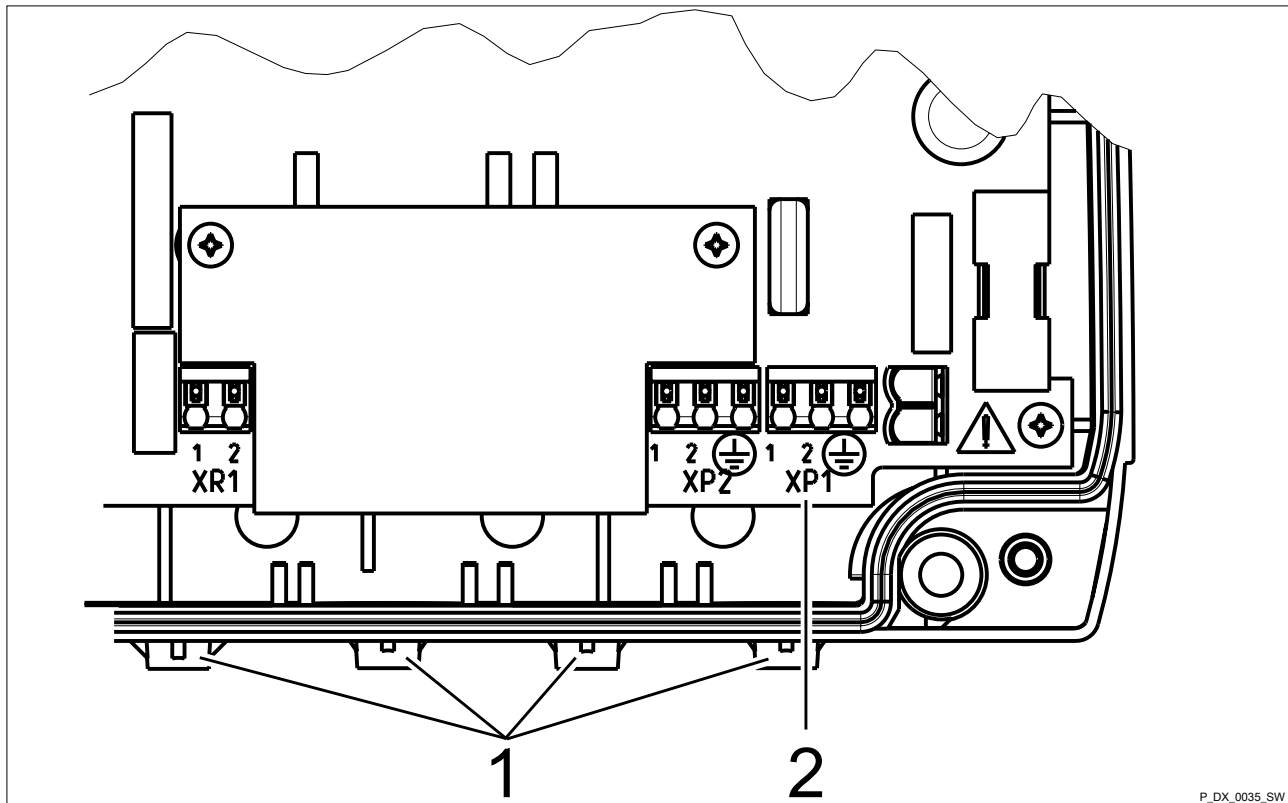

Fig. 10: Preparing the mains connection
6. ➤ Connect the mains cable to terminal block XP1 - see Fig. 10.